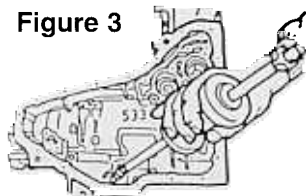

Figure 3
2. Once the puller is tight, screw a 3/8" slide hammer into the seal puller (**Figure 3**). Move the hammer weight until the seal comes out of the case.